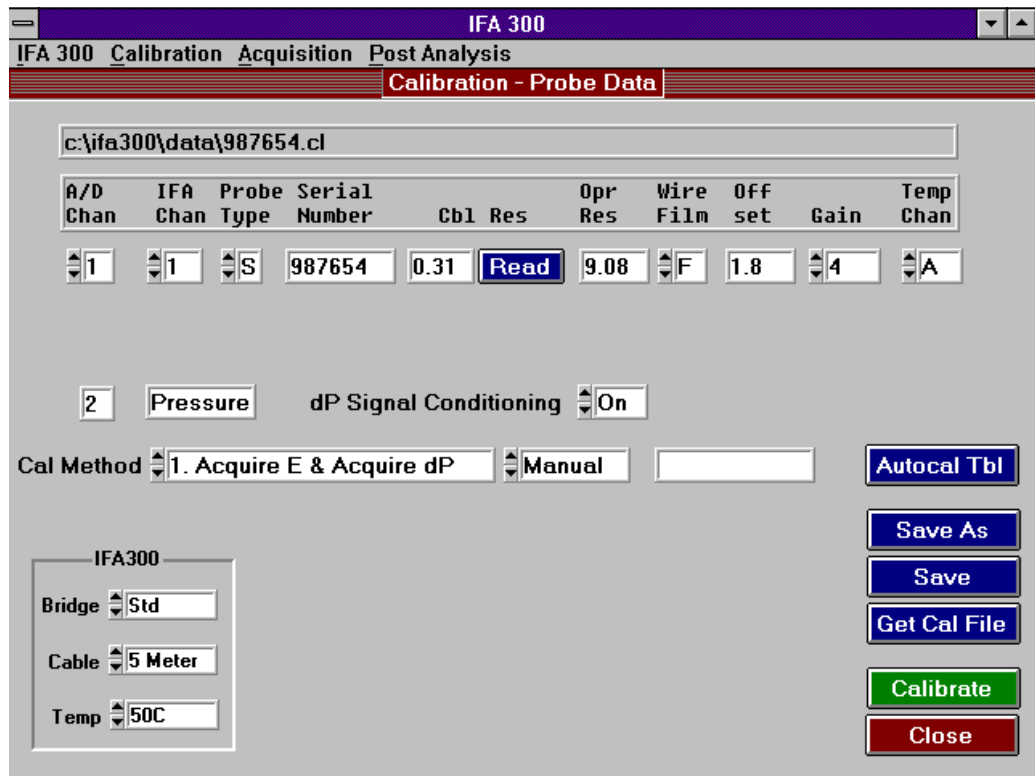

Figure 7-1
1. Select **Calibration** from the main menu and then **Probe Data**. The screen shown in Figure 7-1 appears.